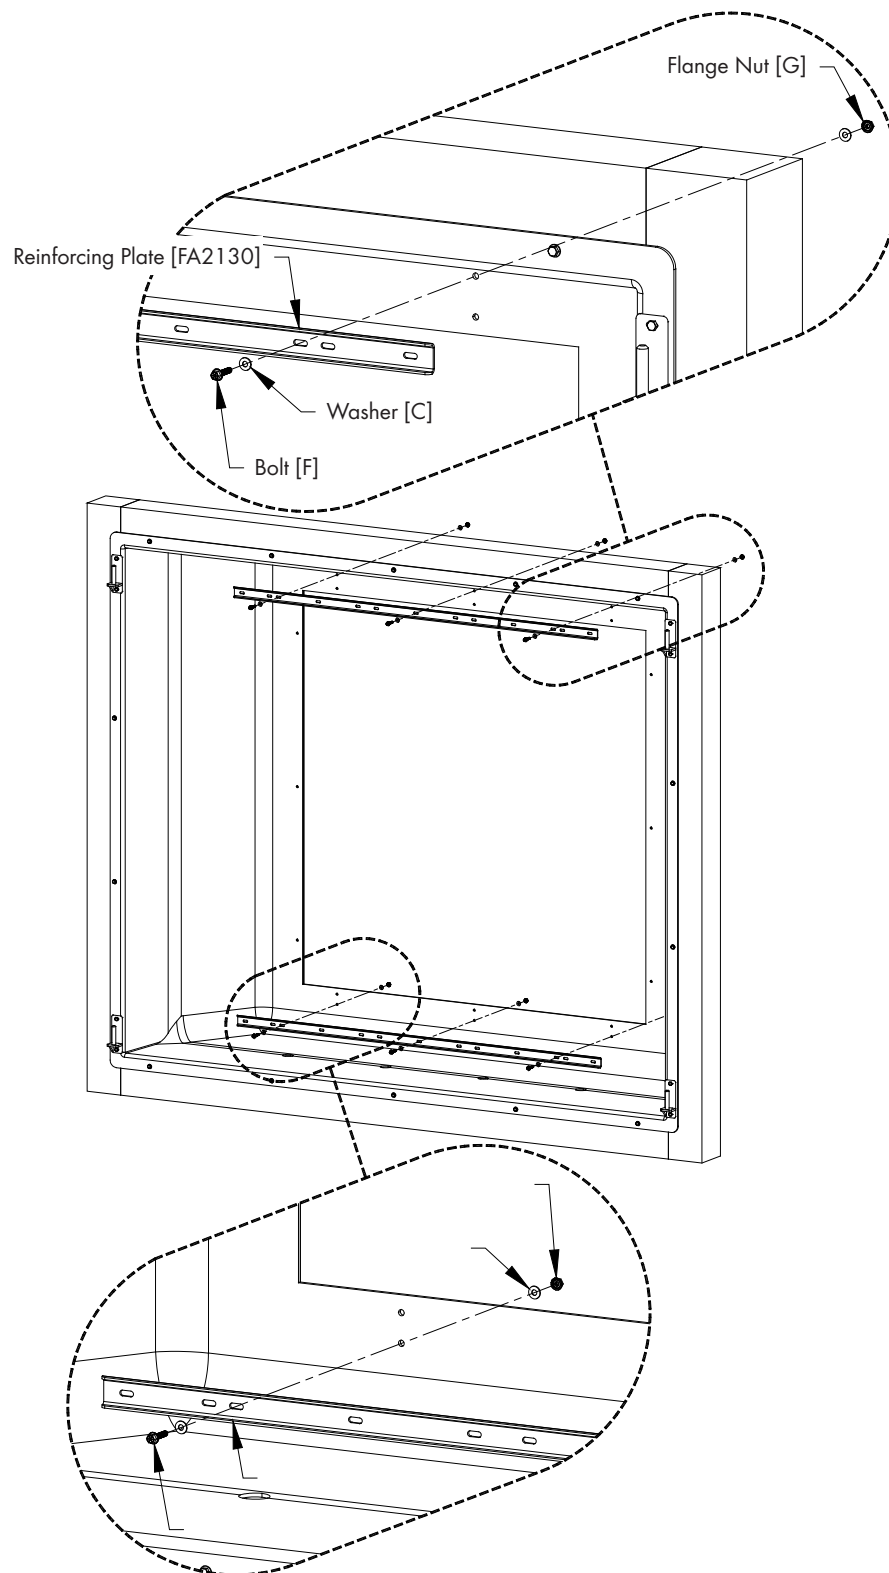

Figure 5B
Attach (2) Reinforcing Plates [FA2130] to the inside of the LTX Housing horizontally using (6) Bolts [F], (12) Washers [C] and (6) Flange Nuts [G]. The bolt head should be on the inside of the LTX Housing and the nut on the outside. See Figure 5B.